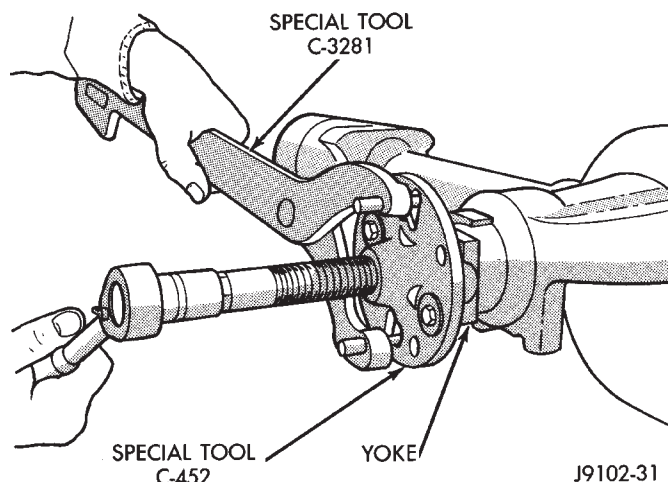

Fig. 20 Pinion Yoke Removal
(1) Remove the pinion yoke nut and washer. Use Remover C-452 and Wrench C-3281 to remove the pinion yoke (Fig. 20).